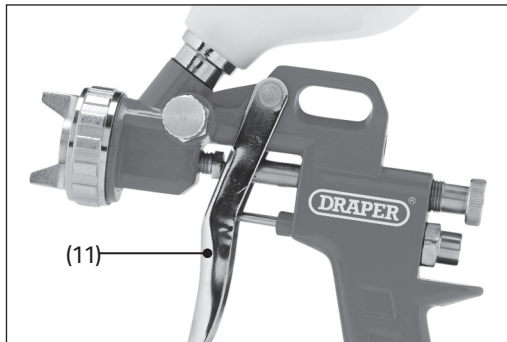

Fig. 9
Paint is released from the spray gun by squeezing the spray gun trigger (11) (Fig. 9):